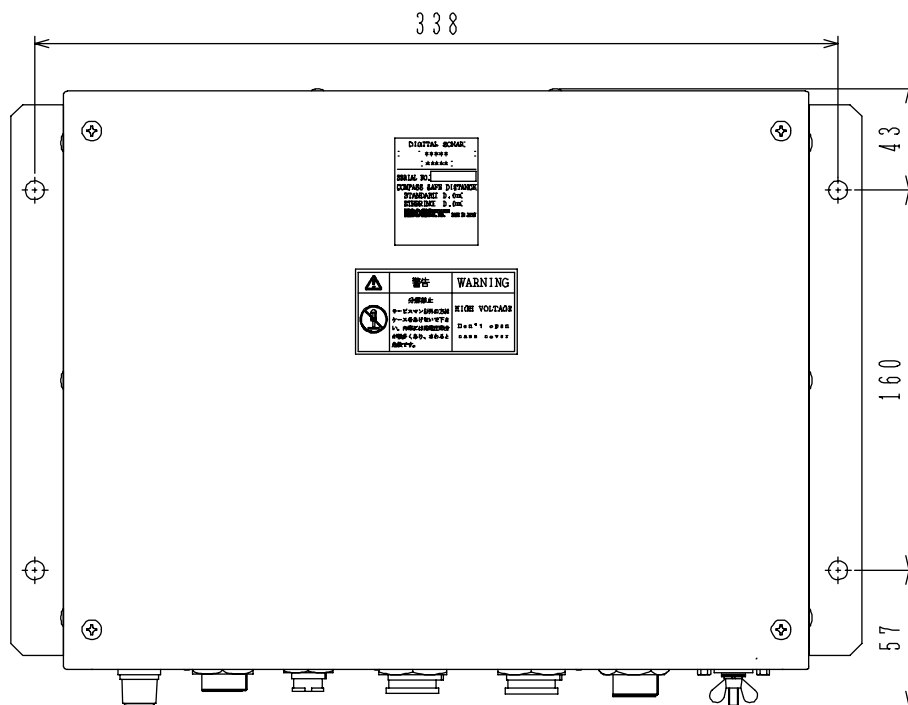

Fig. 1.6 Installation of Processor unit
- (1) Please determine the place where the Processor unit will be mounted with enough space for the maintenance.
- (2) Make 4 holes at the location to be installed (See Fig. 1.6)
- (3) Install the Processor unit in the installing location (installation hole) and fix it with 4 tapping screws (6mm) (M6 x 20 (SUS)). (Prepare 6mm screws suitable for thickness of installing location.)